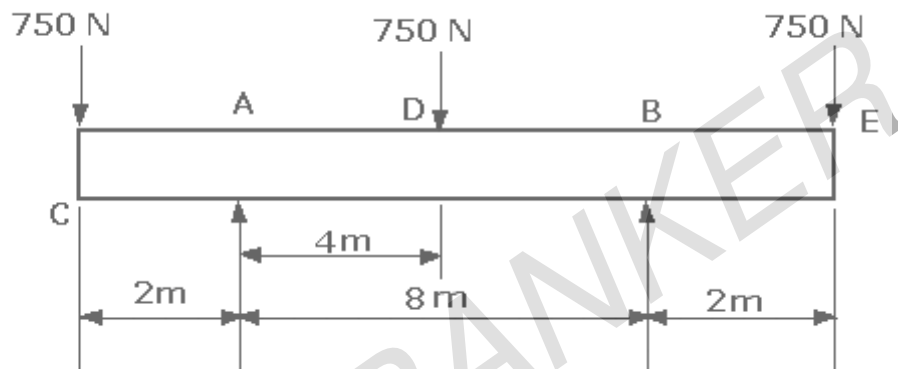

Figure 8
8. Draw the S.F. and B.M. diagrams for the beam which is loaded as shown in Figure 8. Determine the points of contraflexure within the span AB. [16]